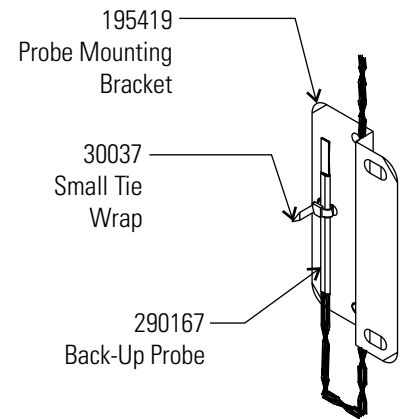

Figure 6-3. Probe
2. As in Figure 6-3, thread the small tie wrap through the openings in the front of the bracket. Secure the probe on the back of the bracket with the tie wrap.